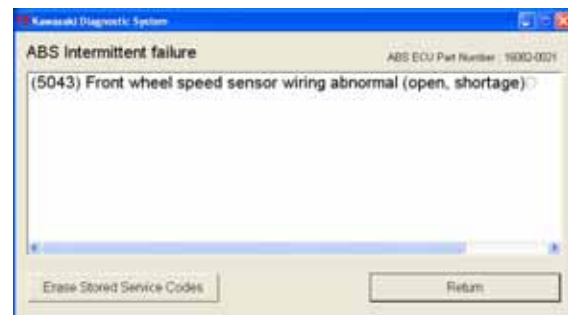

Fig. 7-11 Intermittent Failure
The ABS Intermittent failure screen will appear (Fig. 7-11).
- o To erase the intermittent failure codes, select **Erase Stored Service Codes** (Fig. 7-11).